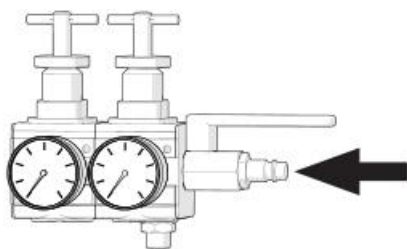
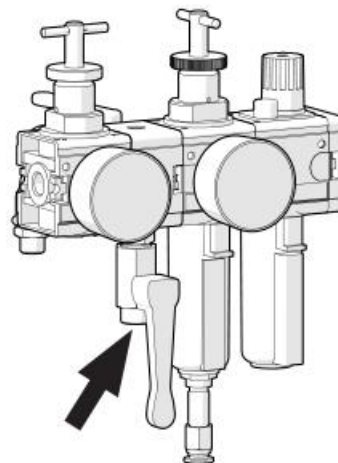

Fig. 22 Connecting compressed air to the dual air pressure regulator
Fig. 23 Connecting compressed air to the maintenance unit
2. Connect the air hose to the air inlet of the pressure regulator (see Fig. 22) or to the maintenance unit (see Fig. 23), depending on the version.